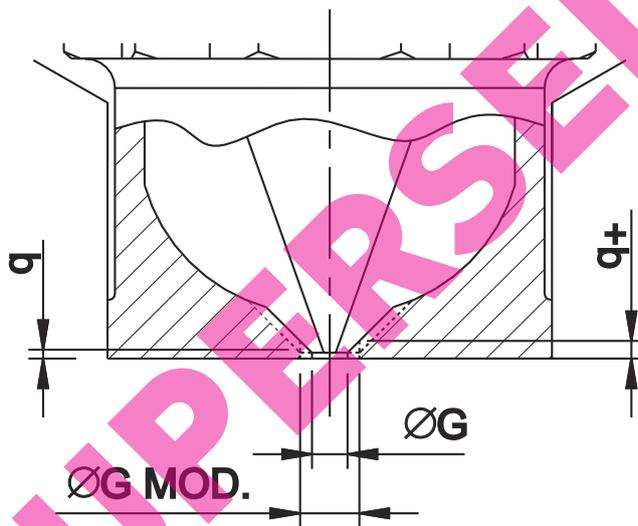

Fig 8.1
- Increasing the gate diameter ('G') of an MTB Bush Nut will increase the gate land ('q'), (refer Fig 8.1). The gate land ('q') must be reduced to a maximum of 0.2mm by modifying the internal 90° angular face of the nut.
Figure 8.1 shows the best way to correct the land length (q) after an increase in gate size (G) for an MTB Bush Nut.